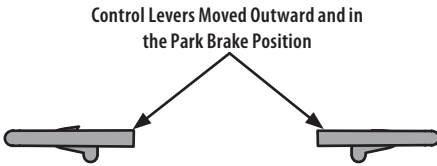

Fig. 19
1. Operator should be sitting in the tractor seat with the lapbar drive control levers fully out and in the park brake position (Fig. 19). Refer to Practice Operation (initial use) for further instructions.